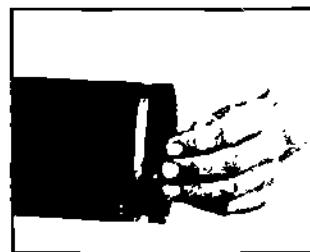

Figure 13-9. Checking Pipe Ends
h) Assembly of style HP-70 Rigid coupling and style HP-70ES coupling is shown in Figures 13-9 to 13-14.
Step 1: The pipe must be free from indentations, projections, or roll marks on the exterior from the end to the groove to ensure a leak-tight seat for the gasket (Figure 13-9).